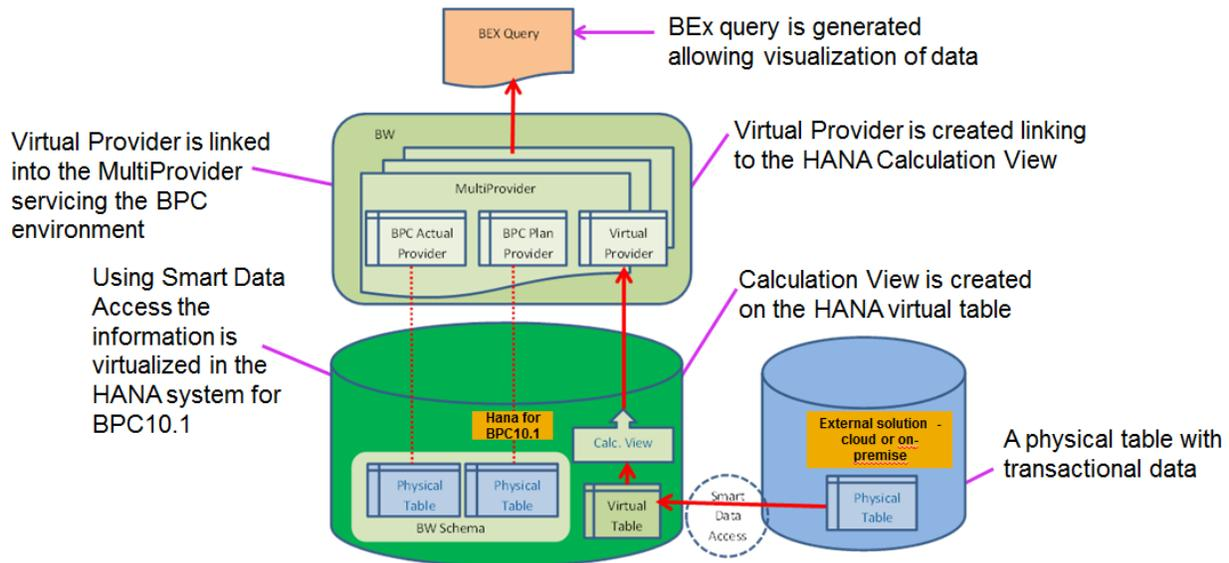

Figure 34 – Consuming the data from virtual infoprovider into planning applications
2.10 **Consuming the data into planning application** - Thus we have verified that the data from the external source is now there in the virtual infoprovider. This virtual infoprovider can now be included in a multiprovider along with BPC10.1NW plan cube. The data from the virtual infoprovider can be used in the planning applications using planning functions as shown in figure 34.